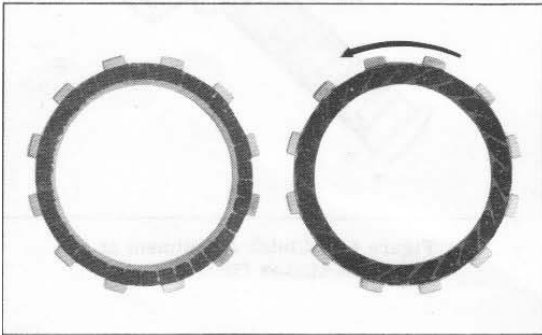

Figure 4.9. Clutch Plate Oil Drain Notches
Assembly is essentially the reverse order of disassembly. Make sure all parts are clean before re-assembling. Give special care to assembly of drive plates (18). Angle of oil drain notches should follow rotary direction shown in Figure 4.9.